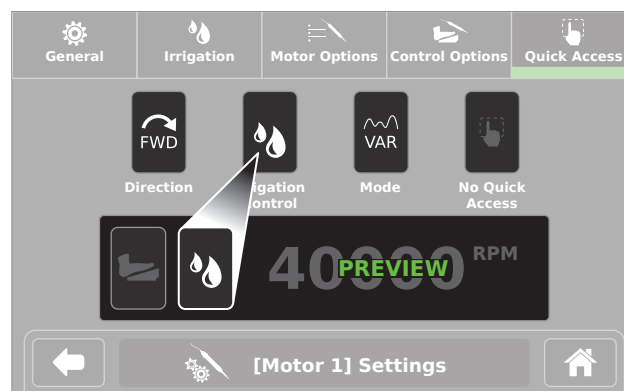

Figure 27 – Quick Access Screen
- The PREVIEW area displays a glimpse of the quick access area on the Home screen (Figure 27).
- Touch the applicable option (Direction, Irrigation Control, Mode, or No Quick Access) to set as the quick access button (Figure 27).
**NOTE:** In Figure 27, the Irrigation Control option was touched and appears in the PREVIEW area.